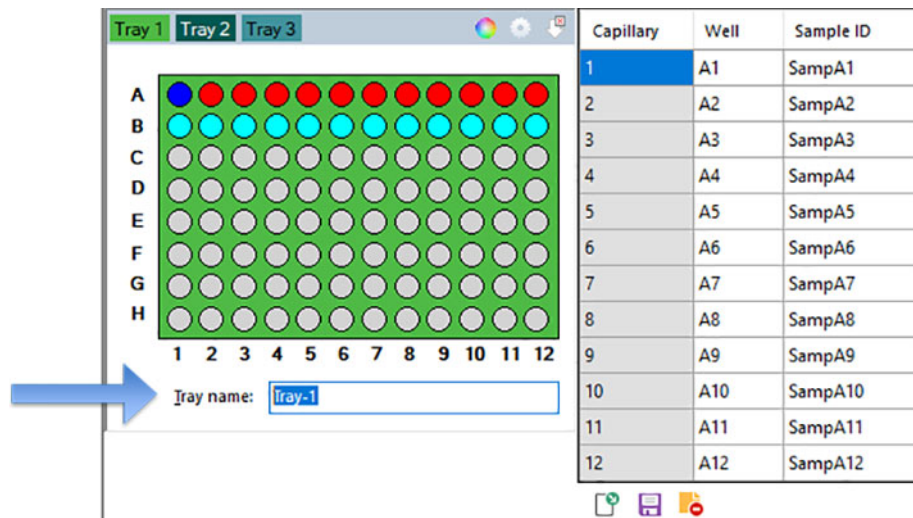

Figure 58 Highlighted tray name
- In the field **Tray name** of the **Operation** tab, highlight the tray name with the mouse cursor (Figure 58).